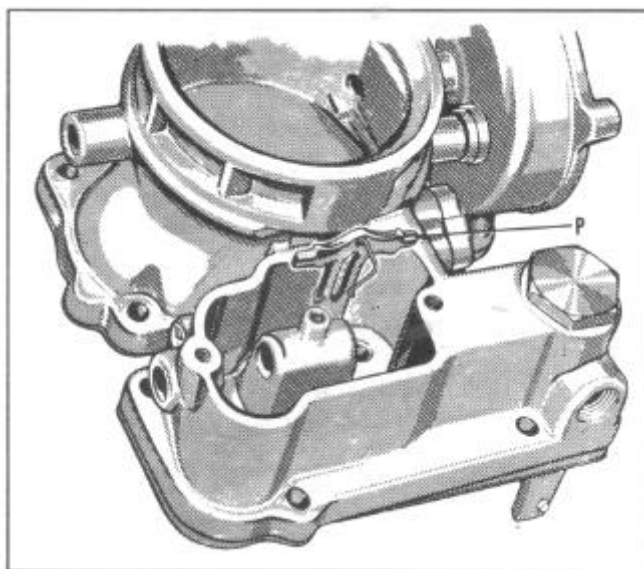

FIGURE 78
14. Install vacuumer piston link and metering rod spring at (P), Figure 78, lip on link extending toward air horn.